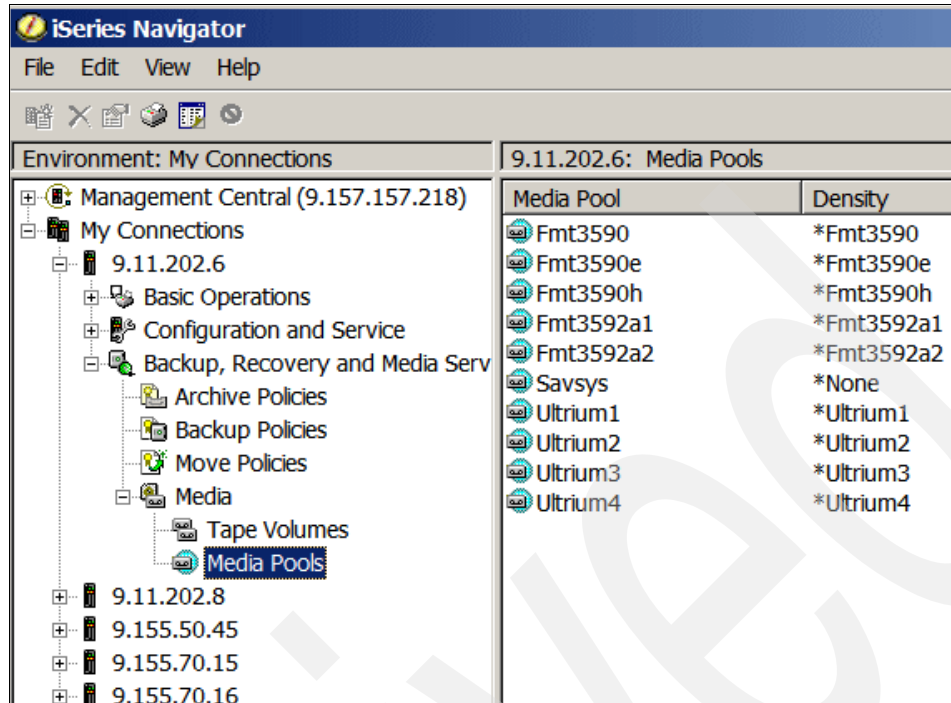

Figure 6-1 Media pools
2. In iSeries Navigator, expand the IP address or host name of the System i partition, expand *Backup Recovery and Media Services*, expand *Media*, and click **Media pools**. A list of media pools is displayed in the iSeries navigator right panel, as shown in Figure 6-1.